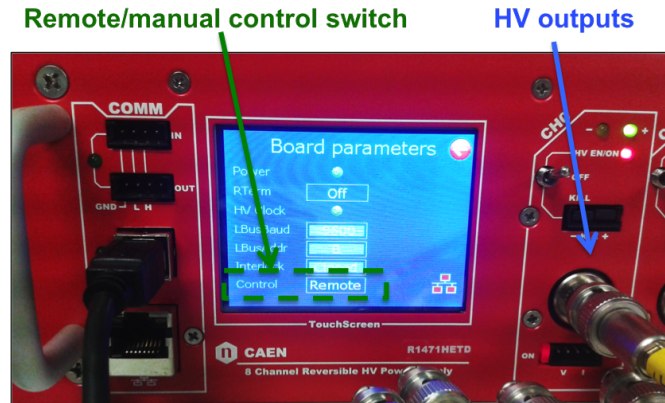

Figure 2.7: Picture of the CAEN R1471HETD front panel.
1. Enable the remote control mode of the HV module as indicated in Fig. 2.7.